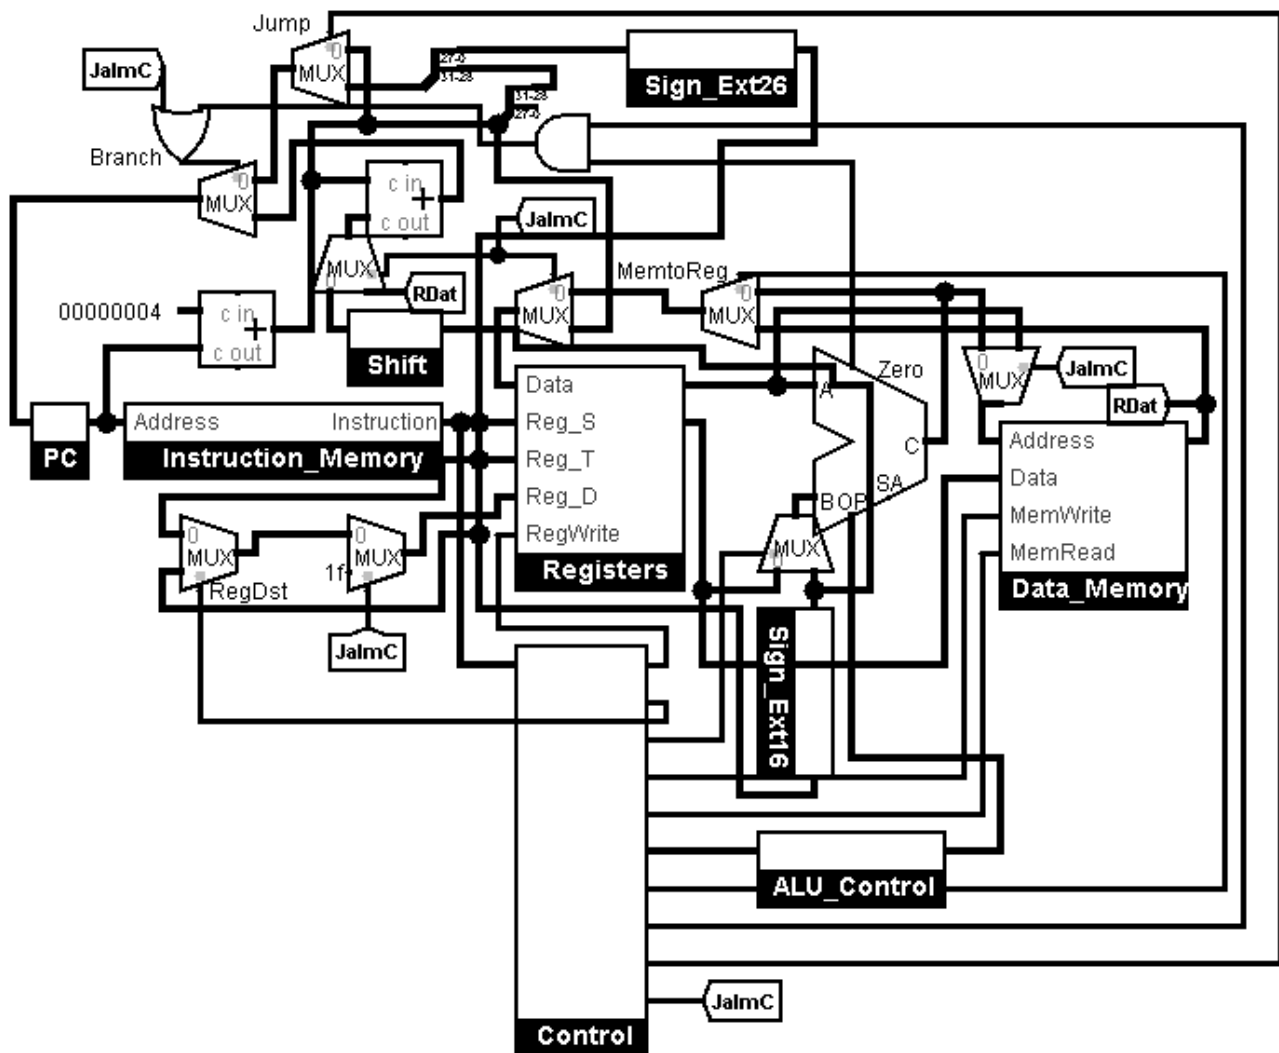

Figure 11: `jalm` Full Implementation
- using the new `JalmC` control signal as seen in Figure 11 to control several different `jalm`-specific MUXes: